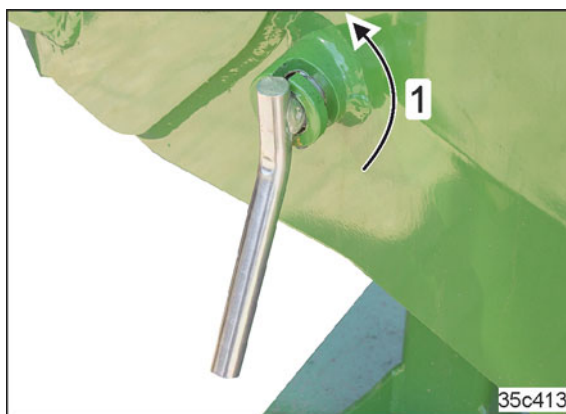

Fig. 116
- 13.1 Turn the locked pin (Fig. 116/1) by 180° until the clamping sleeve (see Fig. 117/1) is released.
16. Lock the pin by turning (see Fig. 116).